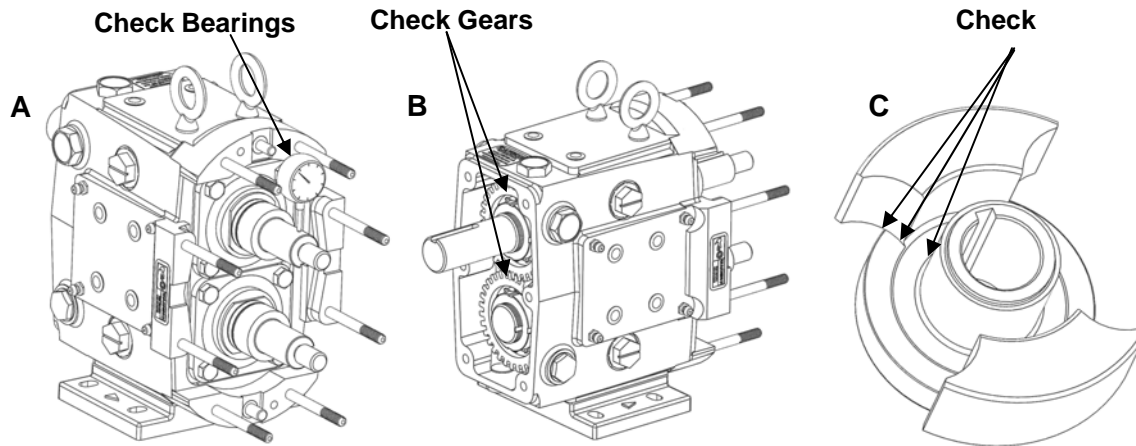

Figure 22: Annual Maintenance Checks
- Check the gear case bearings by measuring the shaft's radial movement with a dial indicator (Figure 22, A). If the movement is greater than or equal to the rotor-to-body clearance found on page 22 (Table 4) the bearings should be replaced.
- Remove the gear casing cover (See page 16 for disassembly information) and inspect the gears for wear and damage (Figure 22, B). Also check for backlash and looseness.
- Inspect the rotors for signs of wear and stress cracks around the areas defined in Figure 22, C. Replace, if necessary.